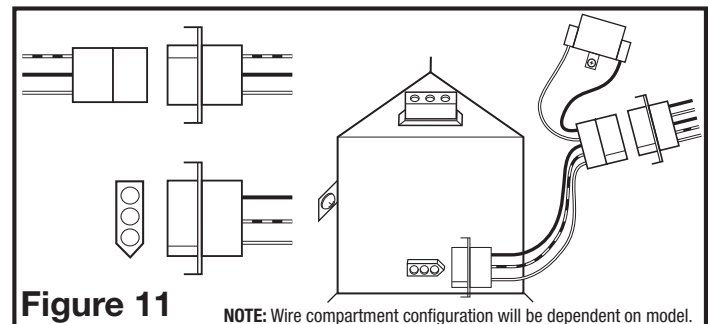

Figure 11
3. Connect the fan wire harness by plugging the 3 pin quick connect end into the receptacle located on the side of the wire compartment cover. Confirm that the 5 pin quick connect end is plugged into the receptacle from the blower assembly. Connect the light wire harness by plugging the 3 pin rectangular quick connect end into the receptacle located at the top of the wire compartment. These cords will only fit one way into the receptacles (Figure 11).